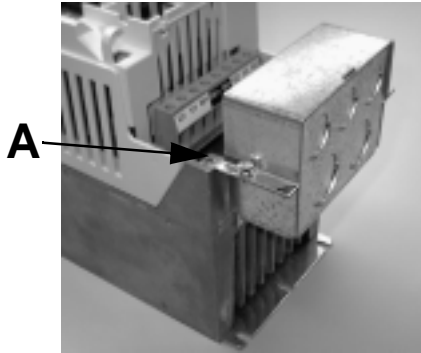

Figure 19 Positioning the conduit box for type IP 21 / NEMA Type 1 drives.
Assemble the conduit box by mating the two conduit box halves and securing them with two of the supplied screws with captive washers (assembled box shown in Figure 19). After removing the cover from the drive, position the conduit box as shown below so the holes in the conduit box line up with the appropriate holes in the drive (A).